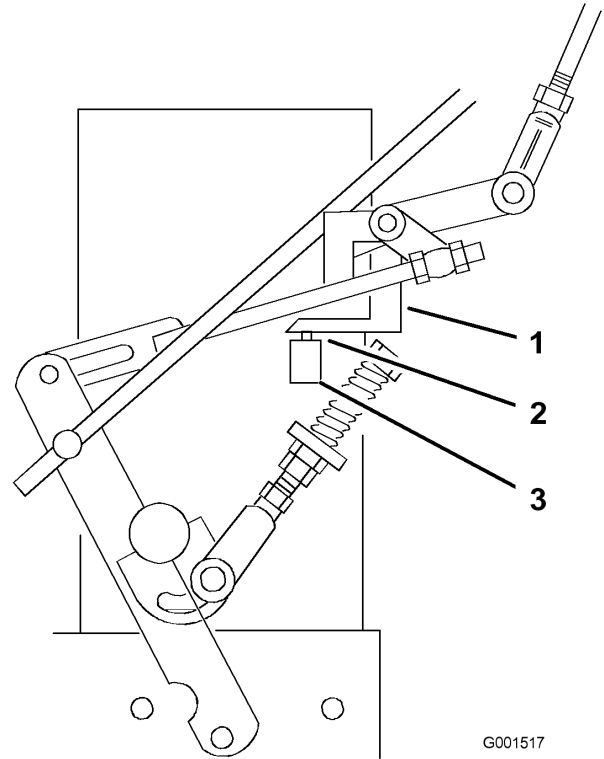

Figure 35
7. Check to make sure the safety switch is depressed and there is a 5/16 inch (8 mm) space between the actuating tab and the switch. (Figure 35).
8. If needed, adjust switch location to create the 5/16 inch (8 mm) space (Figure 35).